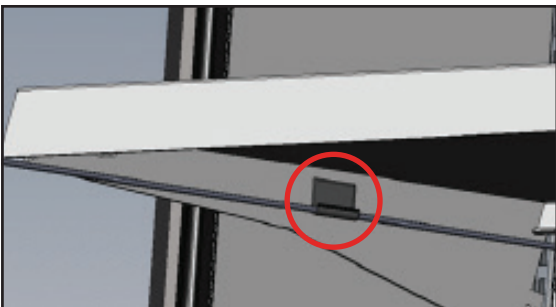

Fig. 4. Secure the power cord.
4. Secure the power cord to the J-clip retainer on the shelf bracket. See fig. 4.